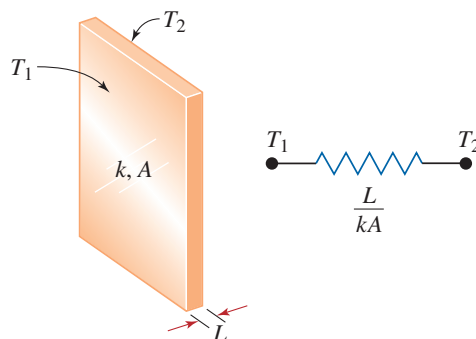

FIGURE 11.9 A slab of material and its thermal resistance.
Figure 11.9 depicts the idea of thermal resistance and how it is related to the material's thickness, area, and thermal conductivity. When examining Equation (11.13), you should note the following: (1) The heat transfer (flow) rate is directly proportional to the temperature difference; (2) the heat flow rate is inversely proportional to the thermal resistance—the higher the value of thermal resistance, the lower the heat transfer rate will be.